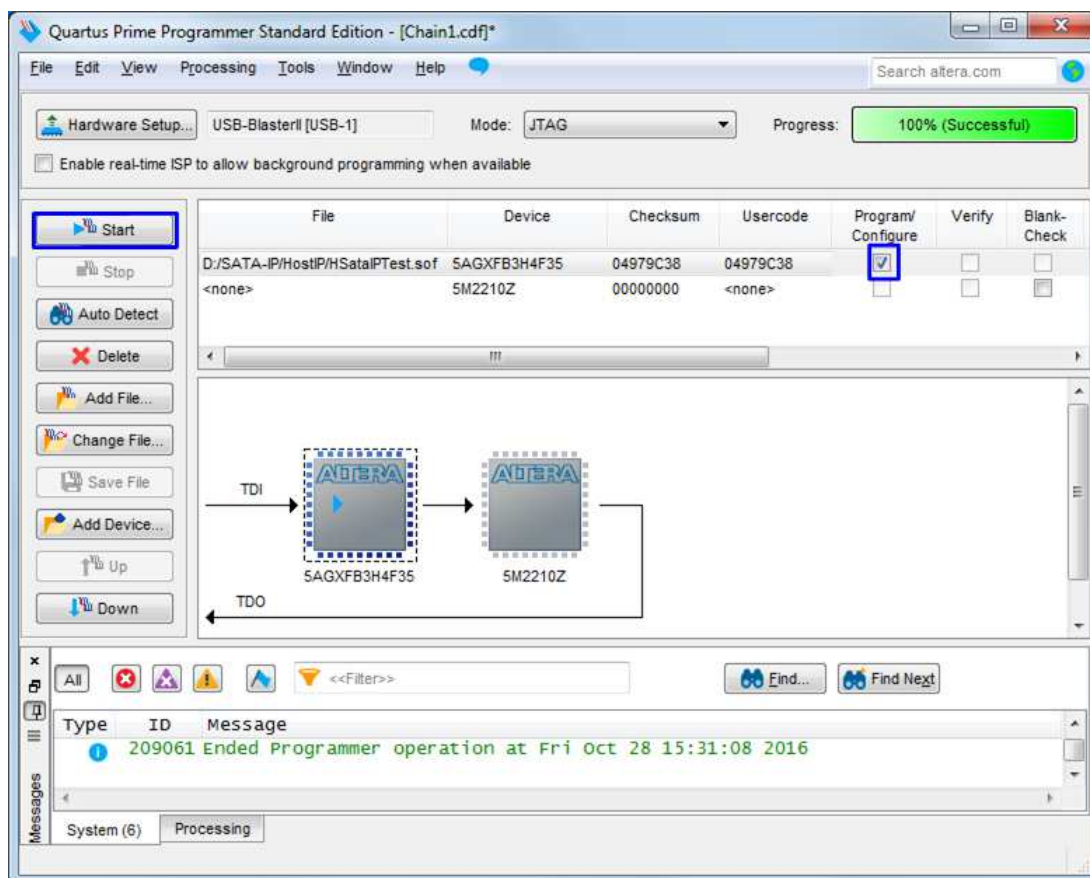

Figure 2-5 Programmed by QuartusII Programmer
7) Use QuartusII Programmer to program “HSataIPTest.sof” file, as shown in Figure 2-5.